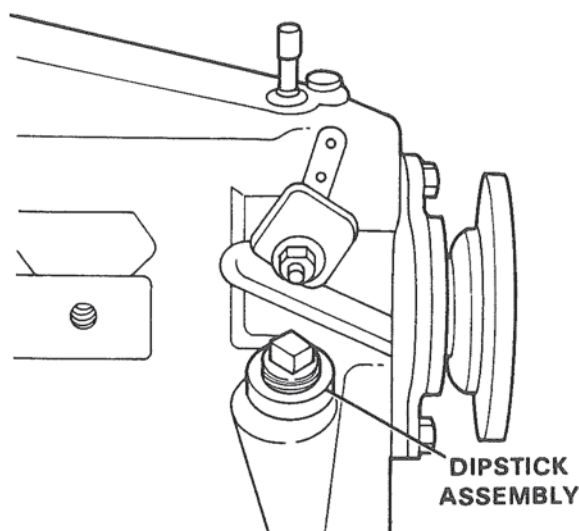

Figure 93. Installing Dipstick.
2. Install the dipstick assembly as shown in Figure 93, and tighten to a torque sufficient only to prevent oil leakage, approximately 10 - 15 ft. lbs. (1.38 - 2.07 kg/m).